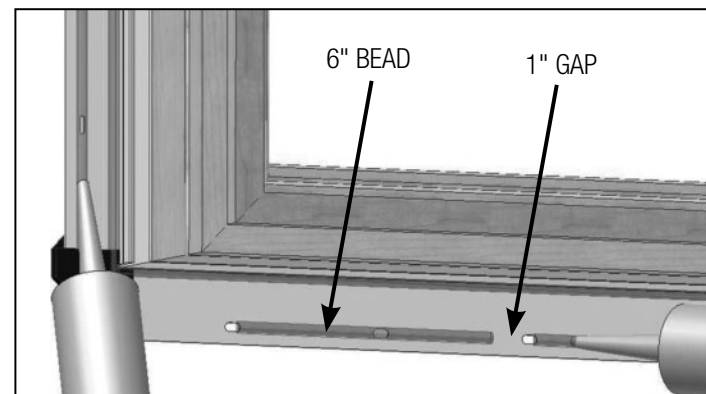

FIG. 13
- b. On the head and side jamb nailing fins, run a 1/4" continuous bead of silicone in line with and completely covering the nailing flange holes. (Fig. 13)
- c. On the sill nailing fin, run a discontinuous bead to allow for any drainage. Alternate using a 6" long bead with 1" gaps as shown below. (Fig. 13)